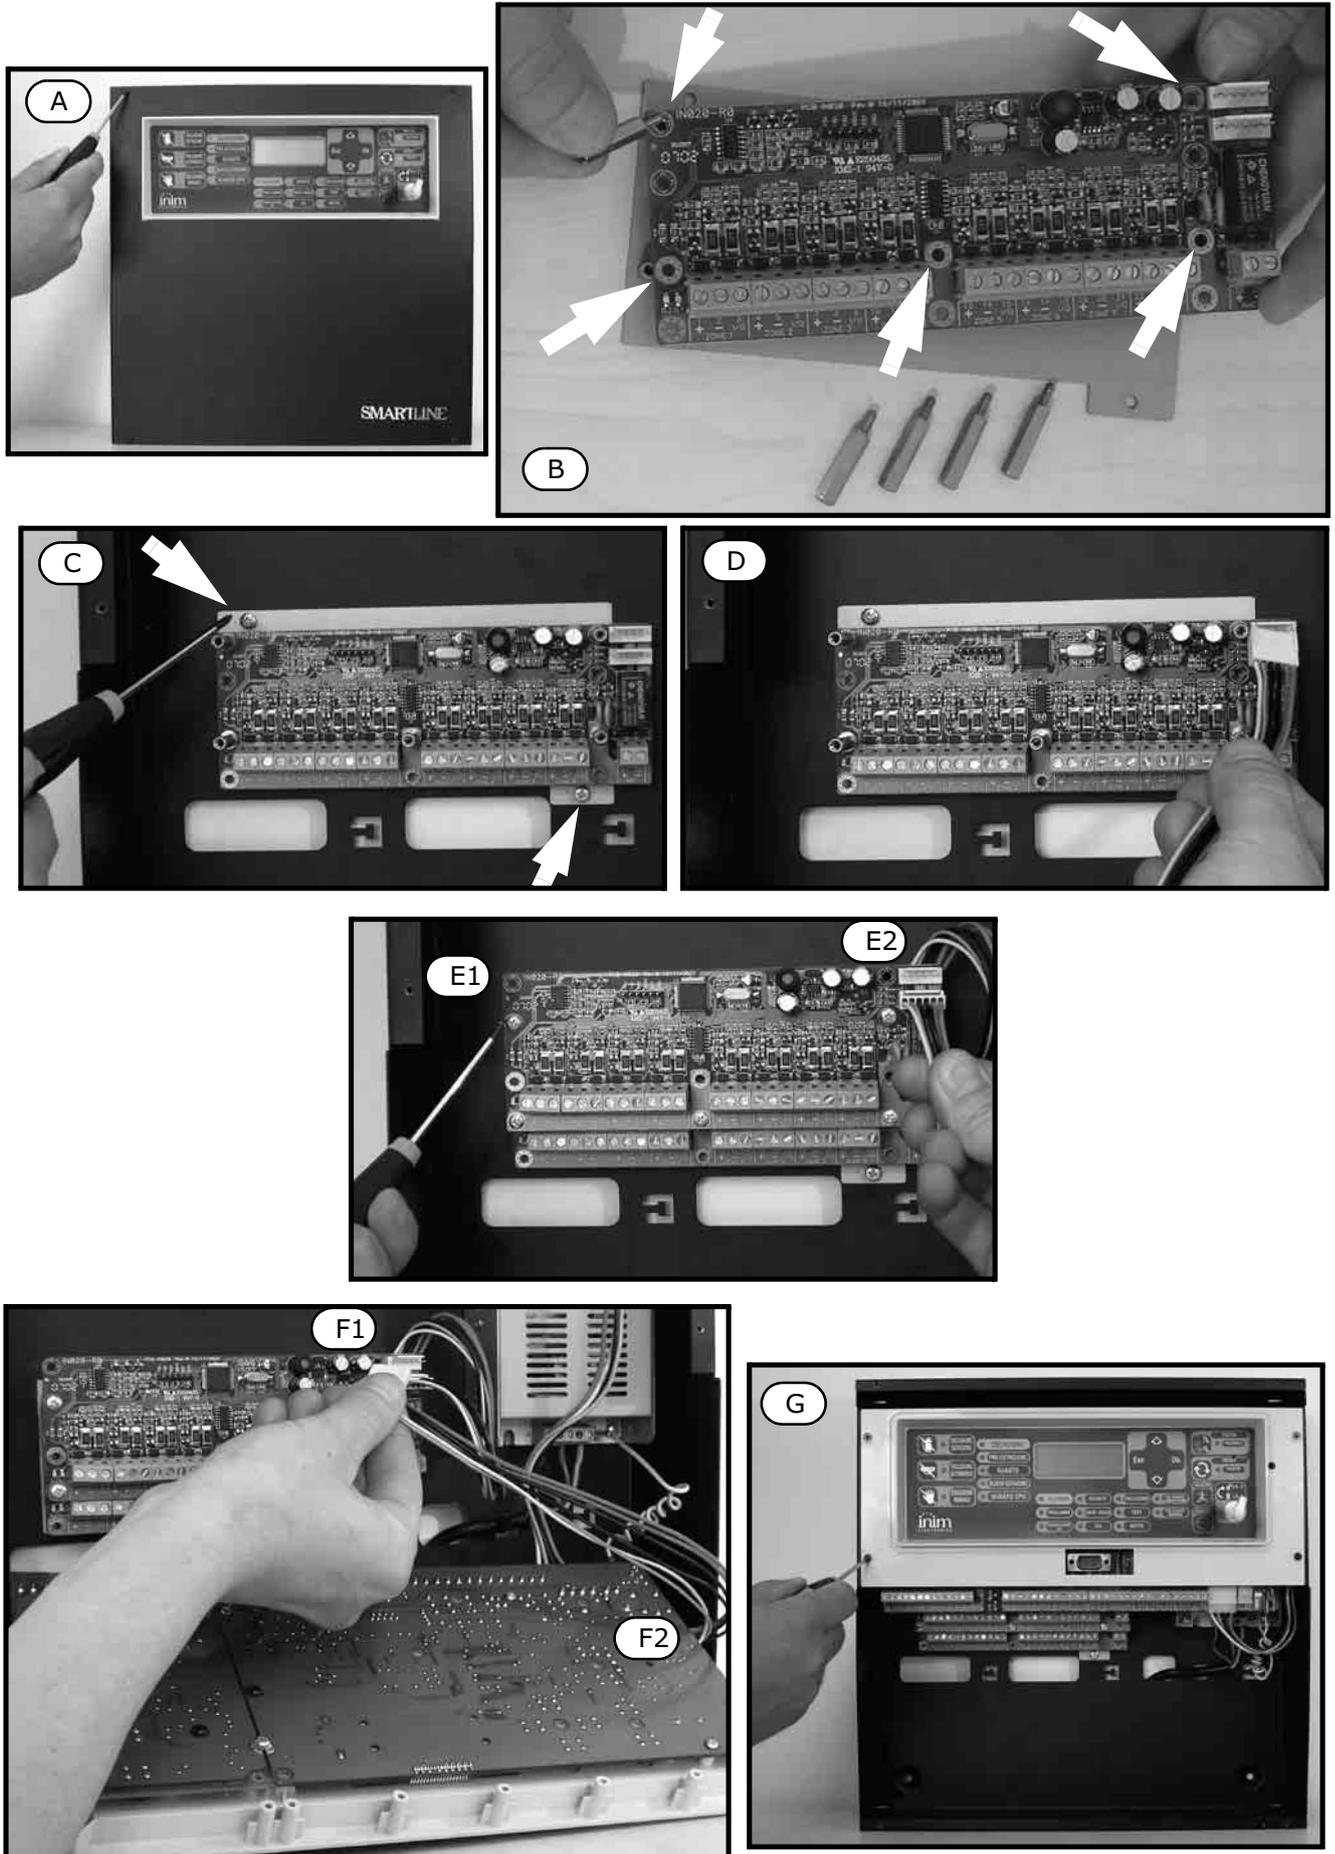

Figure 9 - Mounting the expansion Module
1. Remove the four securing screws and the frontplate (*Figure 9 - A*).
3. Locate the zone expansion board in its housing, using the metal supports if you are installing two boards (*Figure 9 - B*) or the screws if you are installing one board only. Be careful to use the mounting holes indicated in the photograph.
4. Position the zone expansion board in its location on the backbox (*Figure 9 - C*).
5. Using the respective wire, plug the expansion board in (*Figure 9 - D*).
7. Locate the second zone expansion board (if necessary) on the metal spacers. Be careful to use the mounting holes indicated in the photograph (*Figure 9 - E1*).
8. Connect the wire coming from the first zone expansion board (*Figure 9 - E2*).
9. Insert the wire for the connection with the SmartLine motherboard (*Figure 9 - F1*)
10. Connect the wires coming from the zone expansion board to the SmartLine motherboard (*Figure 9 - F2*).
11. Replace the plastic holder and close the control panel cabinet (*Figure 9 - G*).